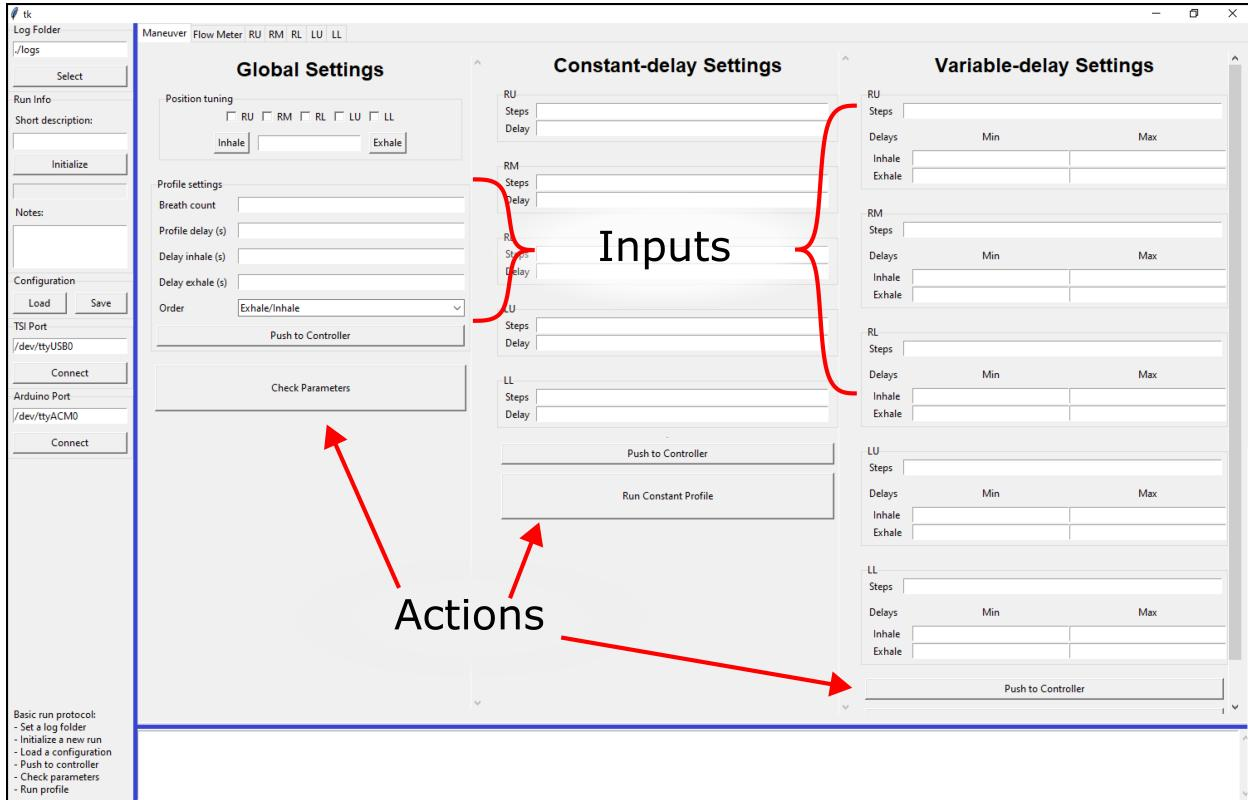

Figure 2: Maneuver tab. Define settings, interact with the motor controller, and initiate breathing profiles.
**Figure 2** shows the maneuver tab. Entry widgets indicate input parameters that can be set interactively. Button widgets indicate actions that you can perform – either sending or receiving information between the computer and the controller.